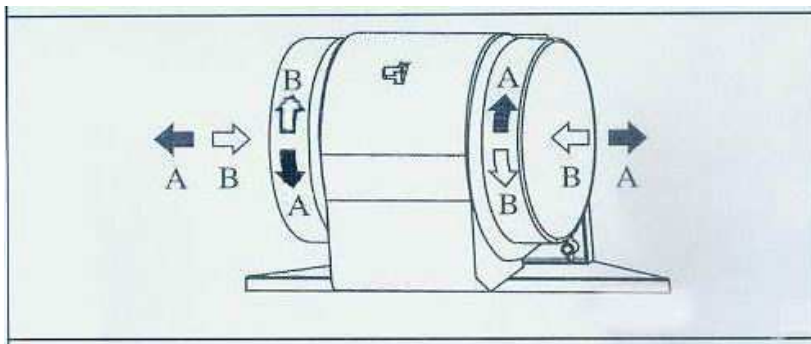

Fig. 14
- The active carbon filters purify the air that is replaced in the environment. The filters are not washable or reuseable and must be replaced at least every four months. The saturation of the active carbon filter depends on the frequency of use, by the type of cooking, and the regularity of cleaning the anti-grease filters. To remove the charcoal filters, place on hand on one filter at a time and turn it towards the front (Fig.14). The